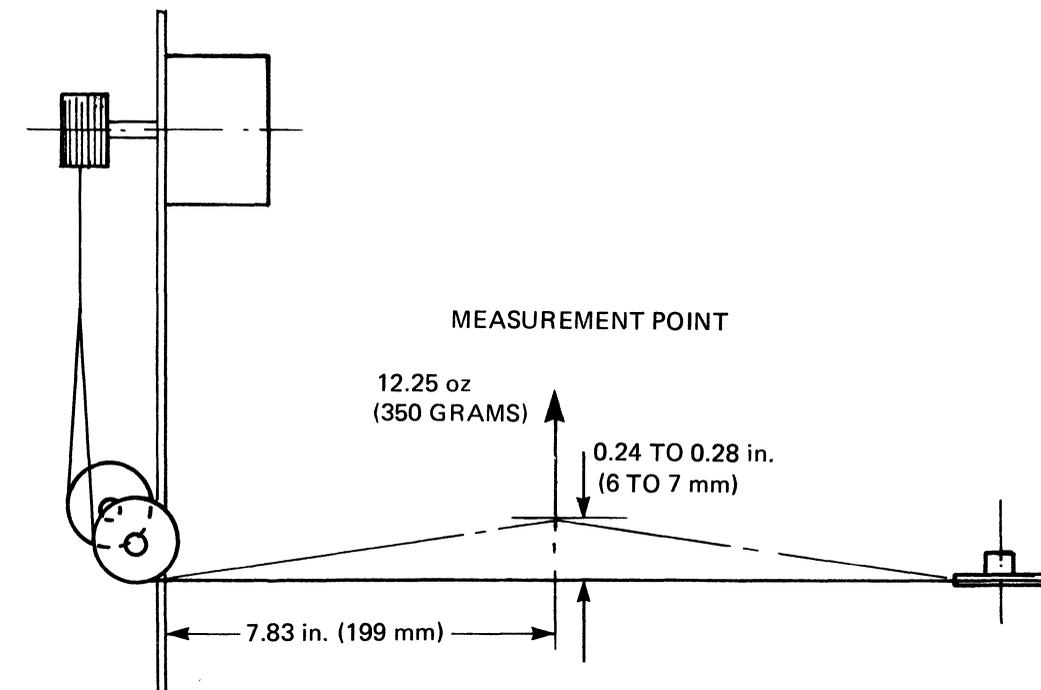

Figure 5-6 Wire Rope Tension Measurement
- d. Adjust the screw for a wire deflection of 0.24 to 0.28 inches (6 to 7 mm) (see Figure 5-6).